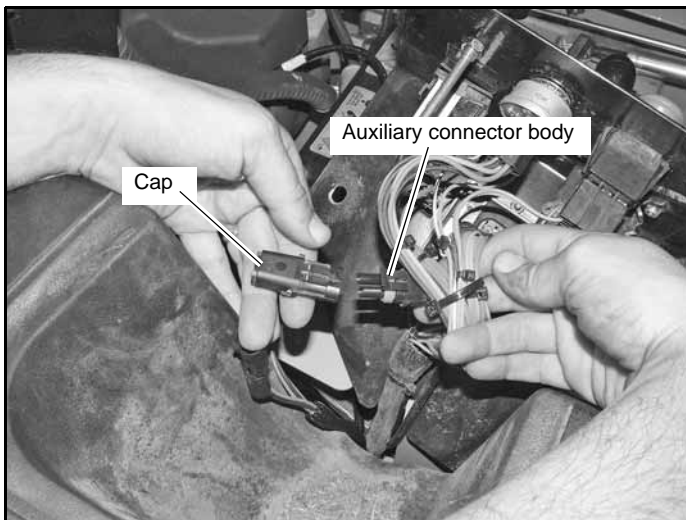

Figure 3-10
4. Locate the auxiliary connector body underneath the control panel and remove the cap. Figure 3-10